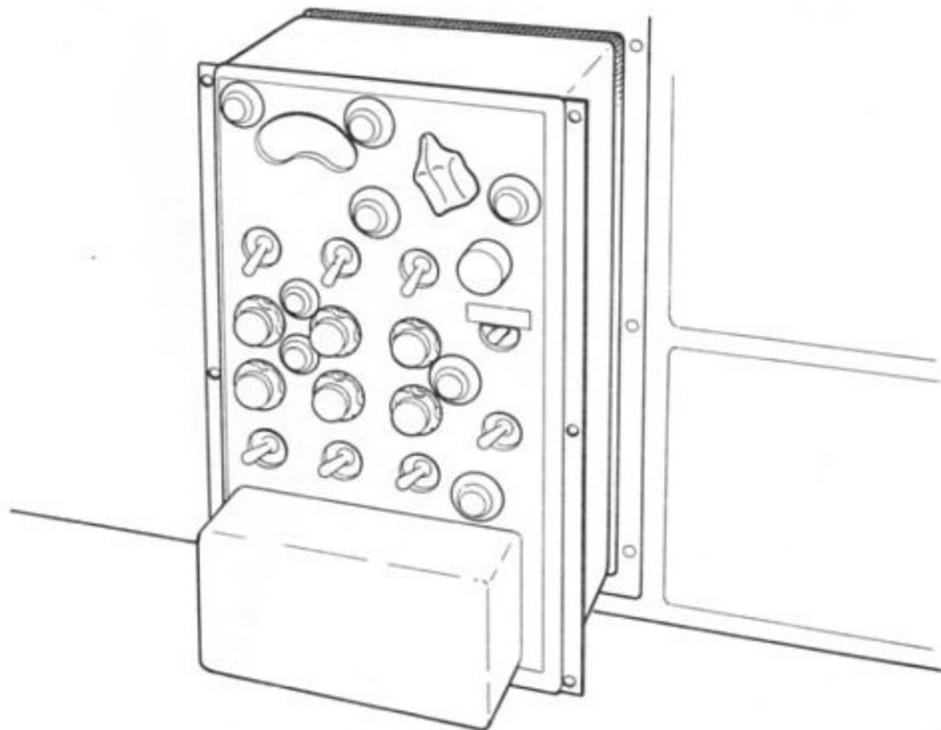

Fig.4 Control unit, Type 9422
5. Each power unit is pressurized with nitrogen and is provided with a heat exchanger which is connected to the EW cooling systems in a similar manner to the transmitters (para.4). Each power unit supplies a stabilized EHT to a transmitter and is switched on by the control unit at the crew station (fig.4).
8. The control unit controls the three transmitters (fig.4). A UNIT SELECTION